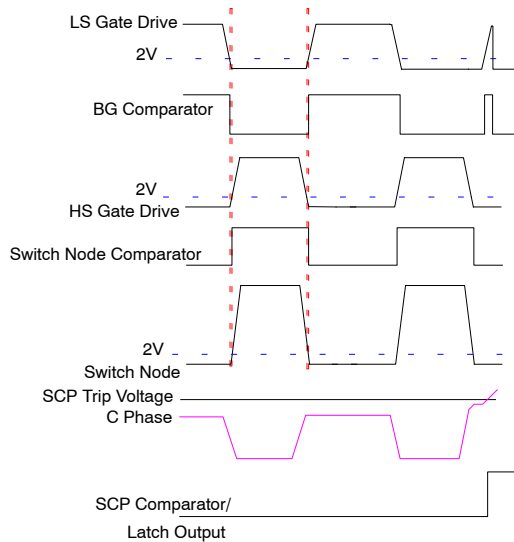

Figure 23. Switching and Current Limit Timing
In case of a short circuit or overload, the low-side (LS) FET will conduct large currents. The low-side  $R_{DS(on)}$  sense is implemented to protect from over current by comparing the voltage at the phase node to AGND just prior to the low side MOSFET turnoff to an internally generated fixed voltage. If the differential phase node voltage is lower than OC trip voltage, an overcurrent condition occurs and a counter is initiated. If seven consecutive over current trips are counted, the PWM logic and both HS-FET and LS-FET are latch off. The converter will be latched off until input power drops below the UVLO threshold. The operation of key nodes are displayed in Figure 23 for both normal operation and during over current conditions.